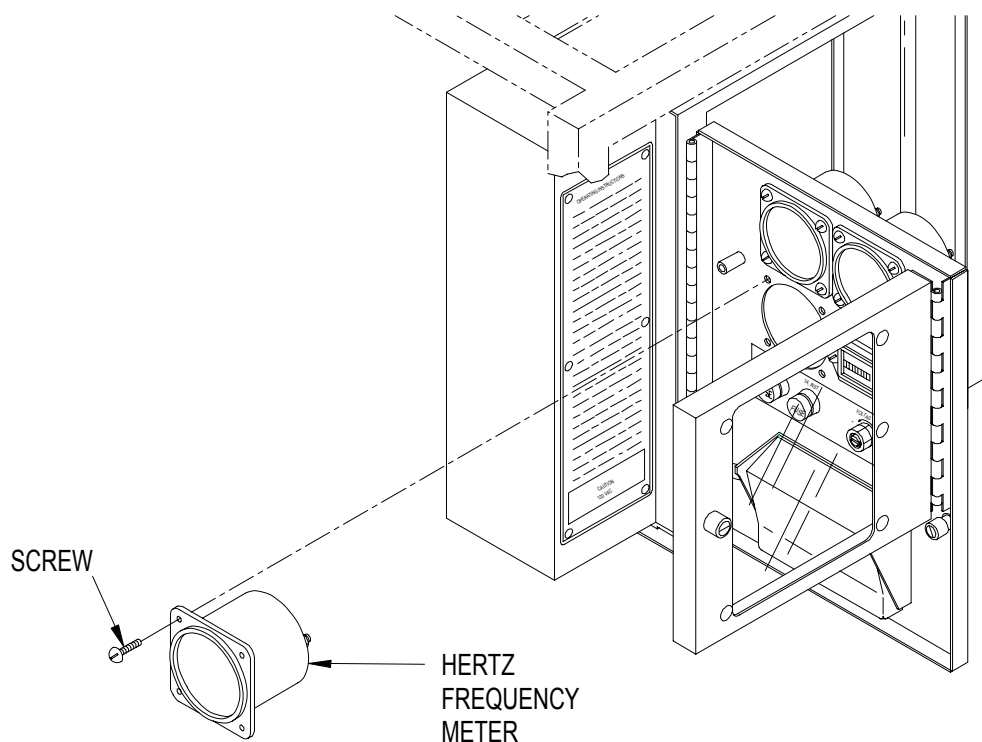

Figure 4-23. HERTZ Frequency Meter (MEP-531A)
- (1) Shut down generator set.
- (2) Release instrument panel by turning fastener, open instrument panel slowly.
- (3) Remove gauge protective cover. Then tag and disconnect HERTZ frequency meter (Figure 4-23) electrical leads.
- (4) Release instrument cover by turning fastener, open instrument cover.
- (5) Remove screws.
- (6) Remove HERTZ frequency meter from instrument panel.
- (1) Insert HERTZ frequency meter (Figure 4-23) into instrument panel.
- (2) Apply locking compound (Item 6, Appendix E) to screws.
- (3) Install screws.
- (4) Connect electrical leads and remove tags. Then install gauge protective cover.
- (5) Close and secure instrument panel and instrument cover.